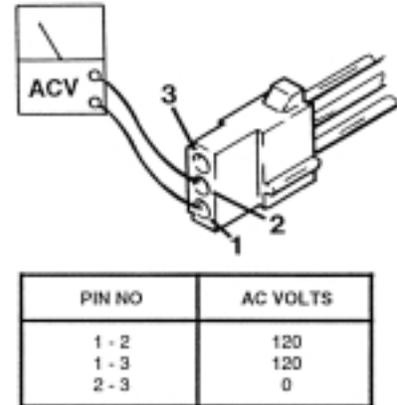

Figure 5-10. Connector CN15
3. Use a voltmeter capable of measuring 120 VAC and measure the following connector pins in connector CN15. See figure 5-10.
3. Use the R x 100 scale of the ohmmeter and touch pins 2 and 3 of connector CN15. See figure 5-10.